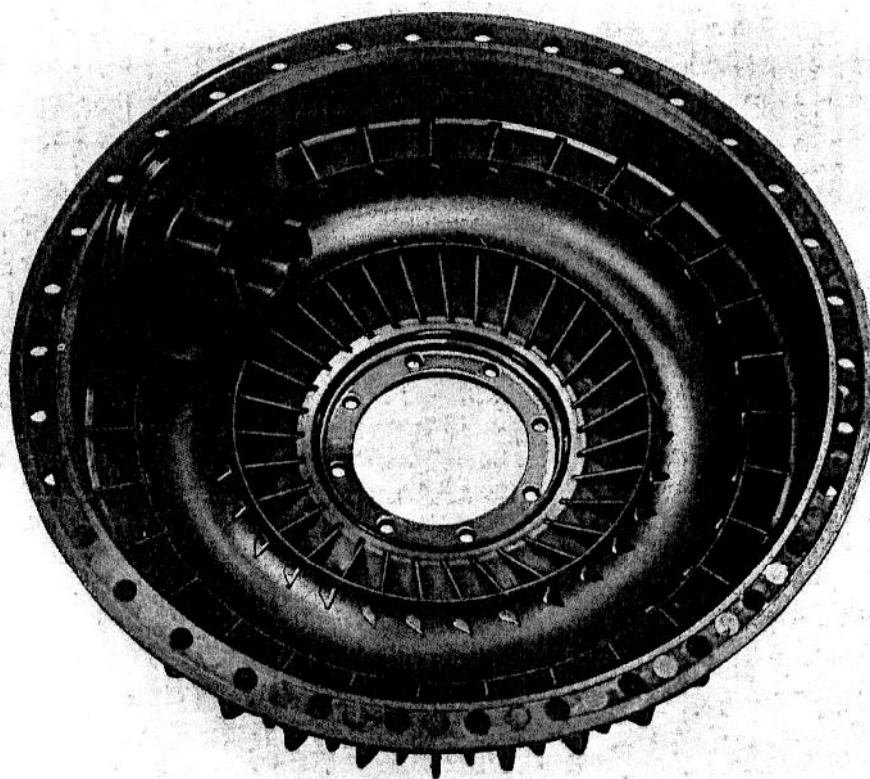

FIG. 13
1. (Fig. 13) Fit a new hub seal into place in the impeller assembly.